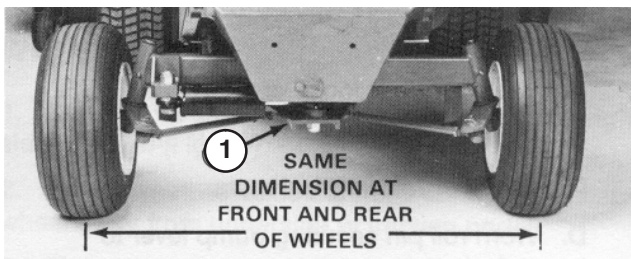

Figure 66
- Loosen the jam nuts on both tie rods. Adjust both tie rods until center-to-center distance at front and back of rear wheels is the same (Fig. 66).